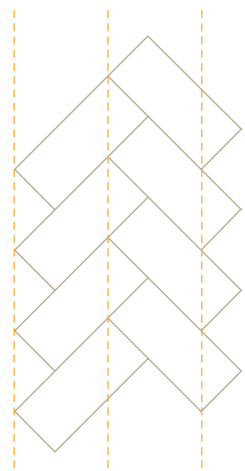

Figure 5: Initial row with reference lines.
- ❗ Be very careful in laying the initial row correctly and at a right angle, as this is crucial for the rest of the installation process and the end-result. Use reference lines to maintain the direction, as minor inconsistencies quickly spread to the rest of the floor. See figure 5.